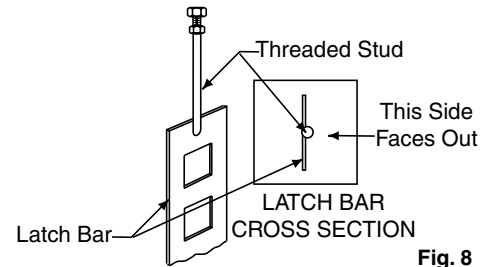

Fig. 8
- B. Thread the jam nut down the threaded stud as far as possible. The latch bar should be oriented toward the back of the column from center line of the threaded stud, Fig. 8.